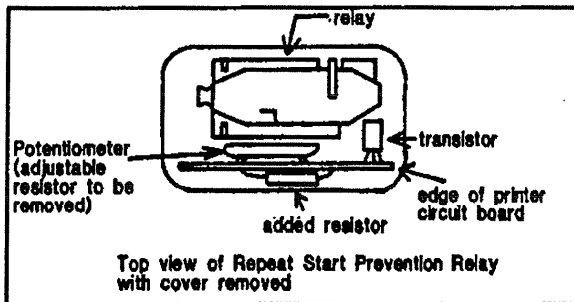

Figure F-3: Top View of Repeat-Start Prevention Relay with Cover Removed
4. (Refer to Figures F-3 and F-4) Remove the small variable resistor with the slider, by unsoldering it from the circuit board.